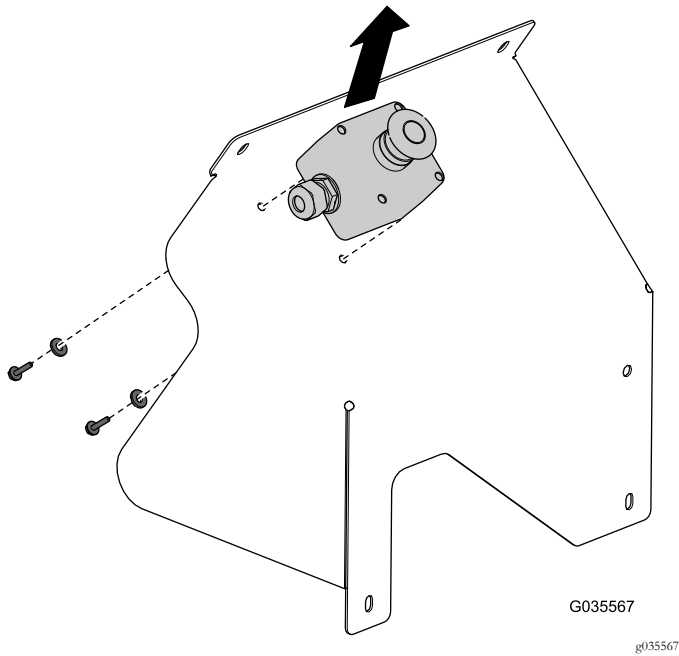

Figure 2
6. Remove the E-Stop button assembly from the cover (Figure 2).